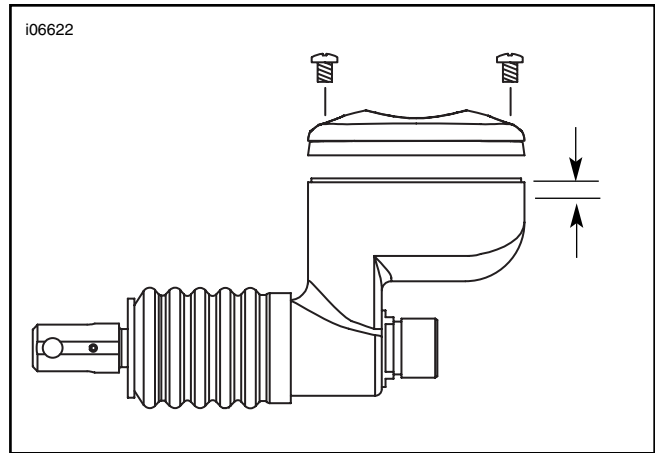

Figure 6. Fill 1/8 in. (3.2 mm) below Reservoir Gasket Surface (Softail)
- a. **For all models except V-Rod:** See Figure 6. Verify that fluid level is 1/8 in. (3.2 mm) below the gasket surface of the reservoir with the master cylinder in a level position.
**For V-Rod:** See Figure 6. Fill reservoir 1/5 in. (12.7 mm) below gasket surface.